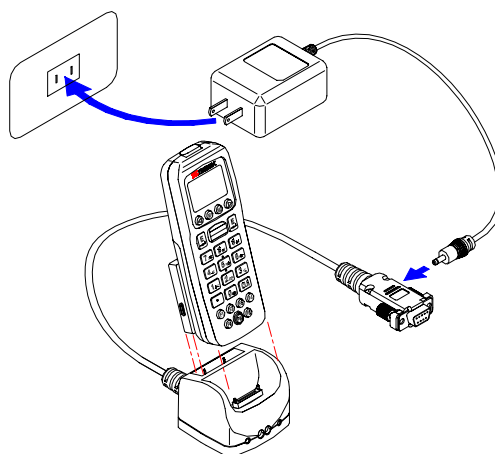
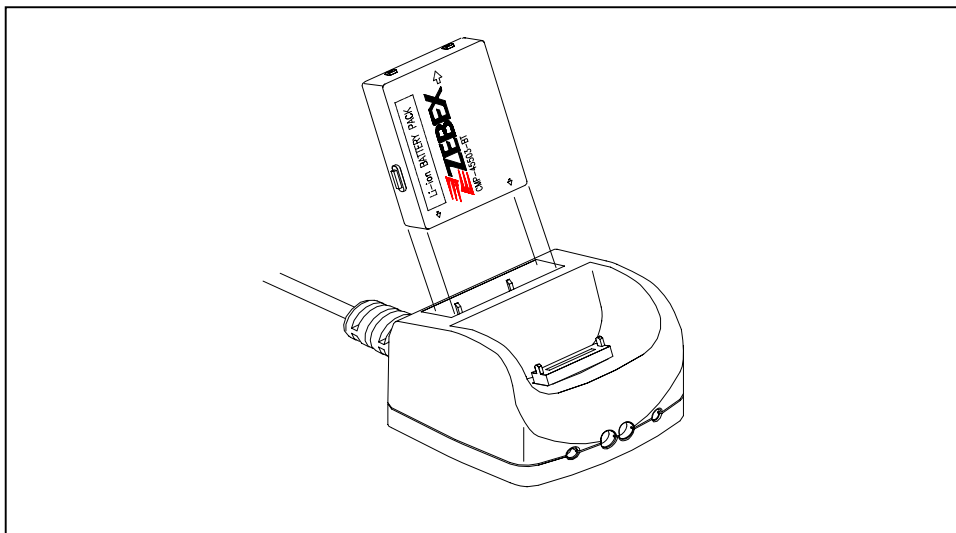

Fig 2
Fig 3
- a. Put the **PDL-20A** on the cradle as shown in figure 2.
- e. The battery is always charged via the cradle. There are two ways to charge the battery. First, take the battery out from the **PDL-20A**, and insert it in the back slot of the cradle for fast charging, as shown in Fig 3, which takes about 3 hours before it is fully charged; second, put the battery in the **PDL-20A**, and place it on the cradle, with the **PDL-20A** either on or off, for slow charging, as shown in Fig 2. This will need approximately 6 hours. To maximize the battery's life span, it is recommended that slow charging be adopted unless there is a need for fast charging.